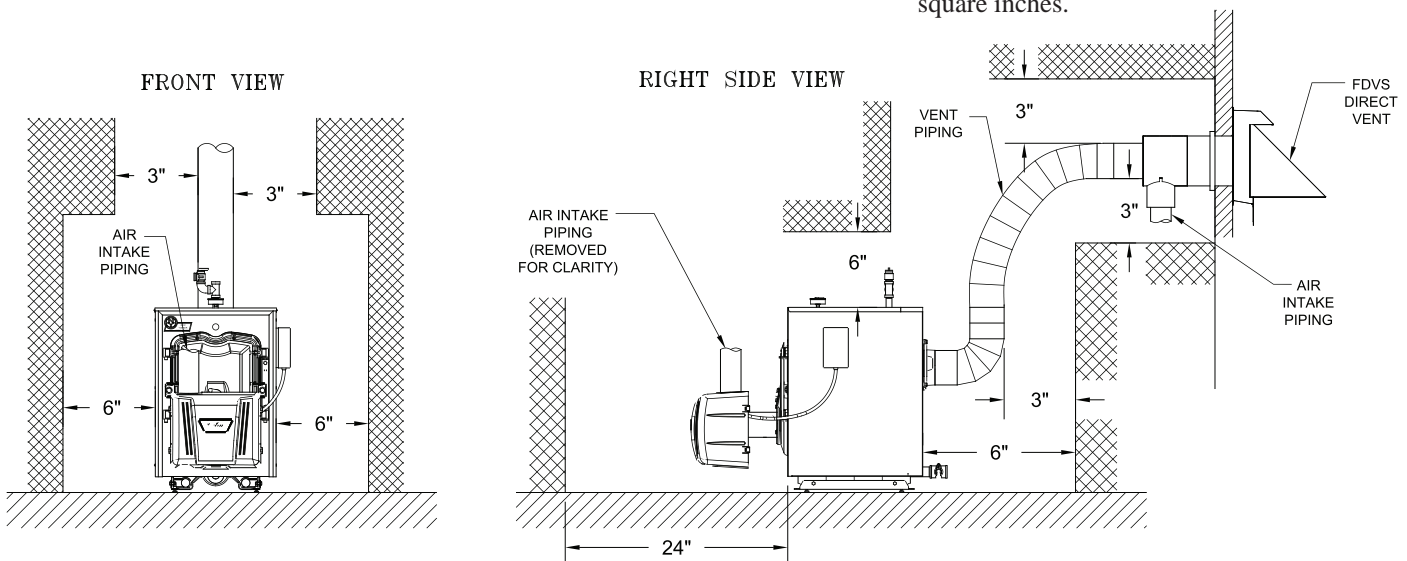

Figure 2B: Chimney Minimum Installation Clearances To Combustible Materials (Inches)
- 24" for rear smoke box cleaning and disconnecting vent pipe from appliance adaptor for servicing (if required) - Direct Vent (see Figure 2B).